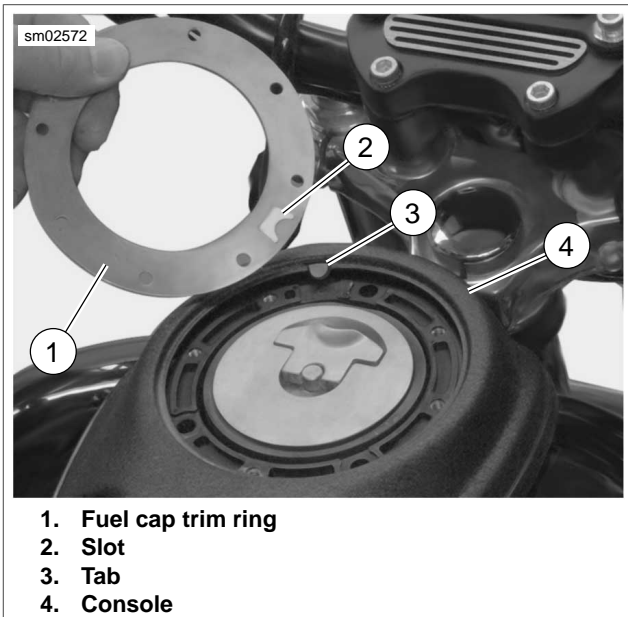

Figure 8-41. Fuel Cap Trim Ring: FXD
3. See Figure 8-41. In next step, be sure slot (2) of fuel cap trim ring (1) is installed over tab (3) of console (4).